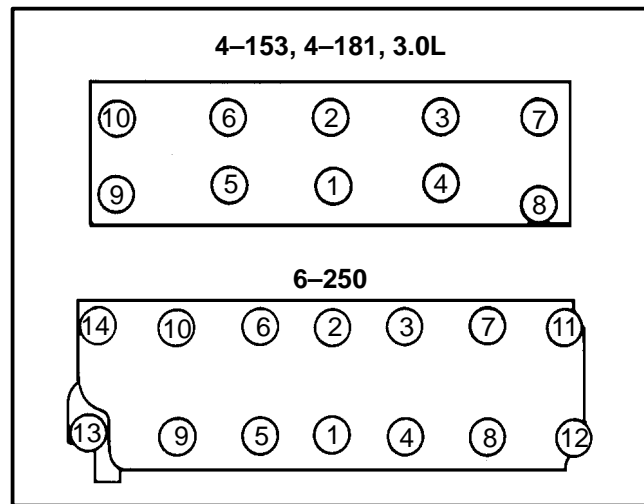

FIGURE 9. TIGHTENING SEQUENCE FOR THE CYLINDER HEAD
3. Carefully install the cylinder head to the engine block. Use a sealant on the capscrews during installation. Tighten the head bolts evenly in a minimum of three steps. Tighten the head bolts evenly to a final torque of 130 N.m (95 lbf ft) in the sequence shown in FIGURE 9.